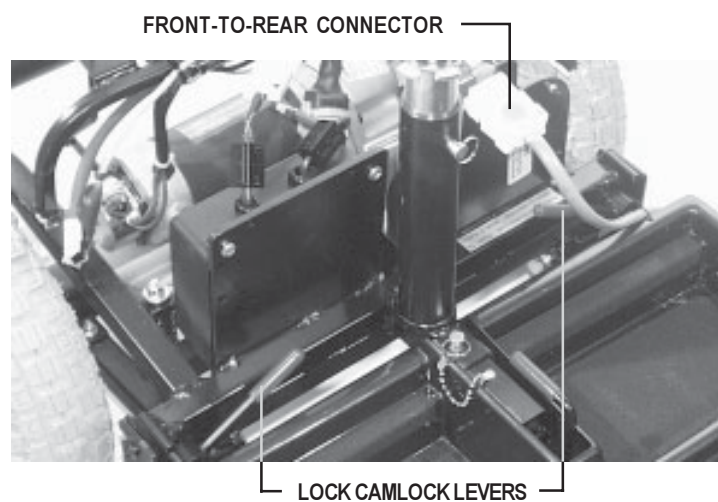

Figure 16. Lock Camlock Levers
6. Place the camlock levers in the locked position. See figure 16.